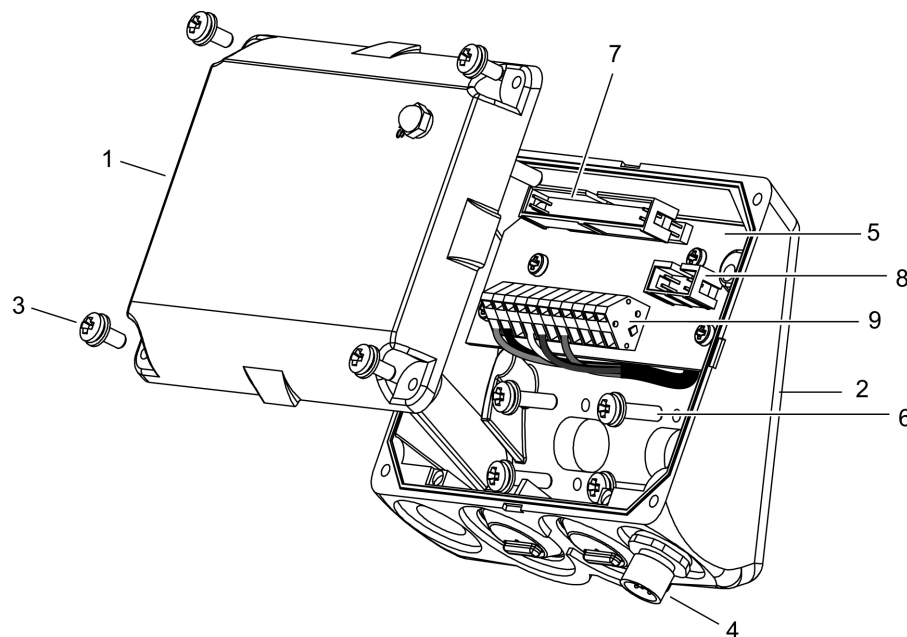
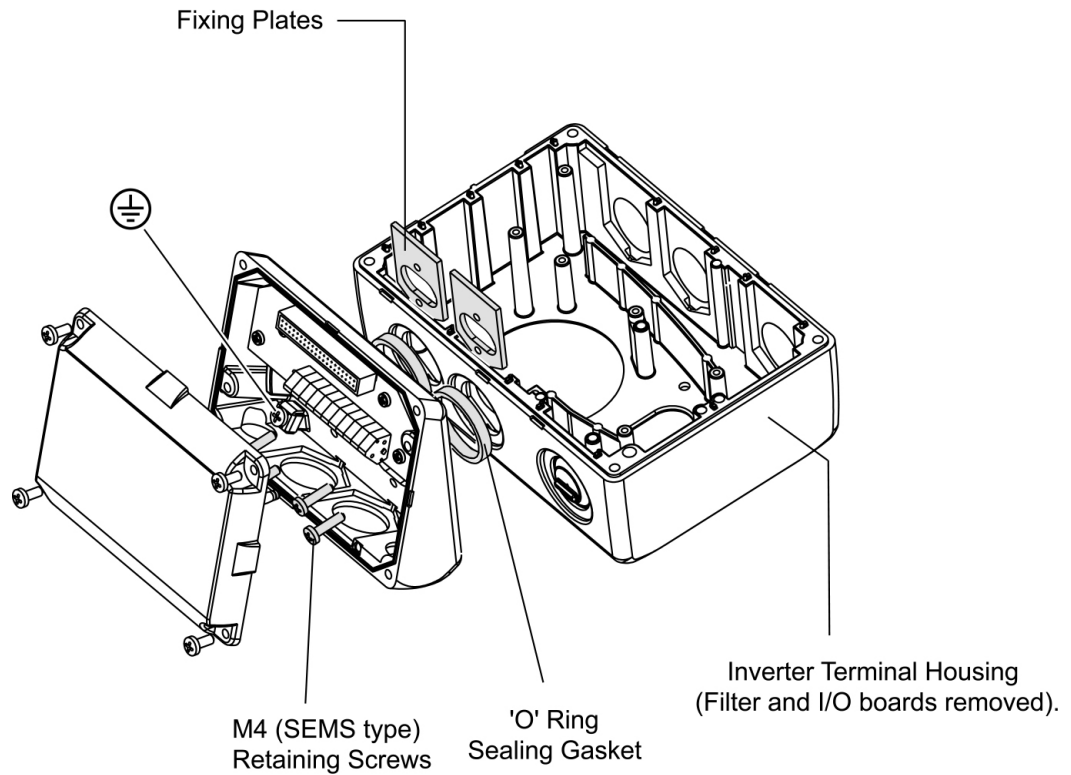
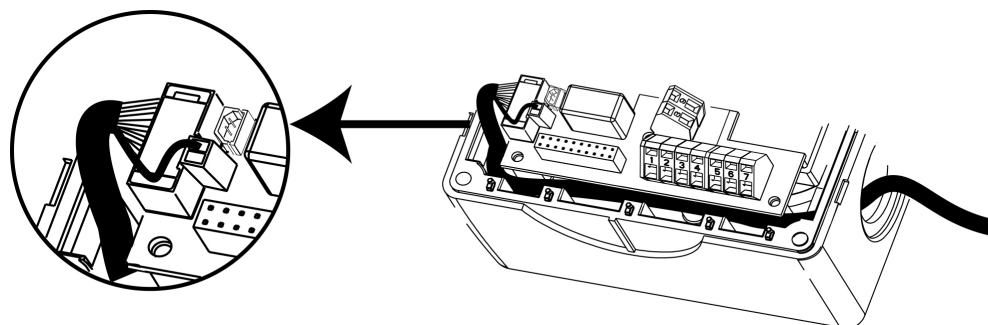

Figure 4-5 DeviceNet Module Layout
Figure 4-6 DeviceNet Module Fixing to Inverter
Figure 4-7 Fitting the Communications Cable
9. Fix the O-ring gaskets to the inverter housing (as shown in Figure 4-6 on page 9).
1. Unscrew the four cover retaining screws (3) (see Figure 4-5).
2. Carefully detach the module cover from the base (2).
3. Insert the □O□ ring sealing gaskets (see Figure 4-6).
4. Align the Options case with the Fixing plates (See Figure 4-6).
5. Fasten the Options module base to the fixing plates using the retaining screws (6) (see Figure 4-5).
6. Feed the supplied comms link cable between the DeviceNet comms socket (8) (see Figure 4-5) and the corresponding comms socket on the inverter I/O board (see Figure 4-7).
7. Terminate the comms link cable screening lead on the Inverter I/O board (see Figure 4-7).
10. Using the U-clamp and screw, connect the earth lead (attached to the fixing plate) to the earth stud (shown as \oplus in Figure 4-6) within the module housing.
13. Align the corresponding sub-assemblies so that the opposing sections of the in-line pcb connector (7) mate (see Figure 4-5).
14. Apply a gentle pressure until the lid (1) is firmly closed.
15. Secure the lid via retaining screws (3) at each corner.